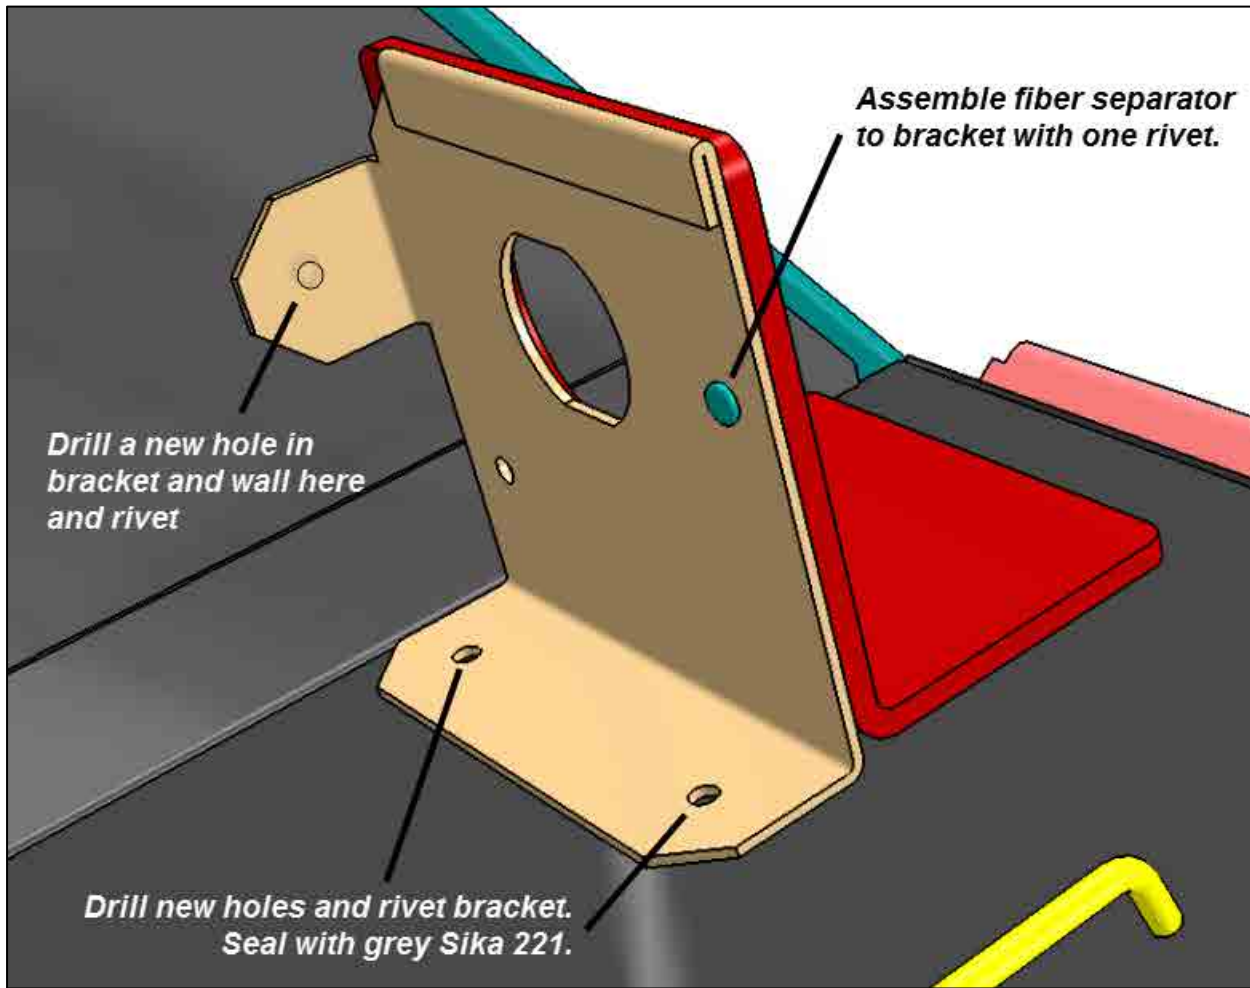

Figure 5, New Location: Bracket and fiber separator installation
10. Slip *black* heat shrink tube #563156 over terminal shank and cable, as close as possible from terminal (fig. 5) Seal with heat gun.